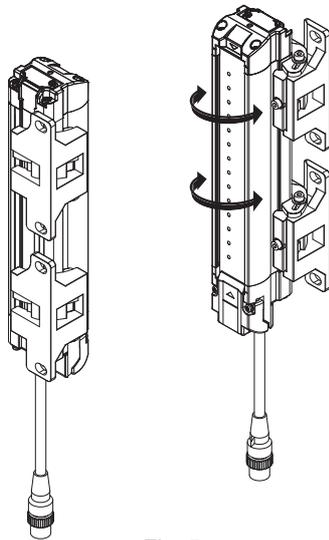
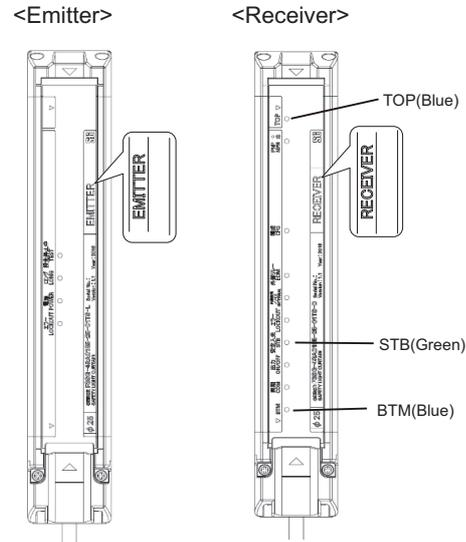

Fig. 5
Fig. 6
Move the emitter and receiver from side to side (Fig. 5) to align them to a center position where the Stable-state indicator (STB, green) of the receiver is illuminated while checking the state of the top and bottom beams with the TOP indicator (TOP, blue) and BTM indicator (BTM, blue) of the receiver. (Fig. 6)
- Securely tighten the Screw (1) to fix the Top/Bottom Adjustable Bracket to the housing of the F3SG-R. The recommended torque to tighten the Screw (1) is 3.0 N•m. (Fig. 6)